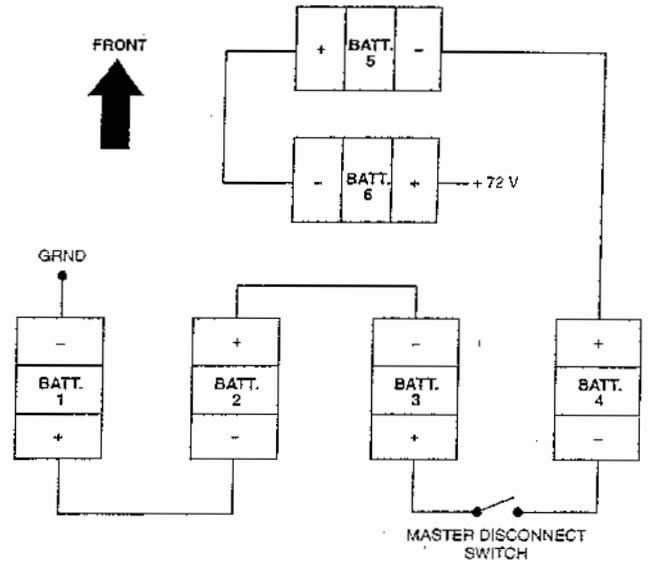

Figure 12 - Battery Layout
6. Remove two Tek screws with socket and wrench. (see figure 12 - item 1)
2. Make sure the lift spring (see figure 12 - item 2) is properly seated in place before proceeding with step 3.